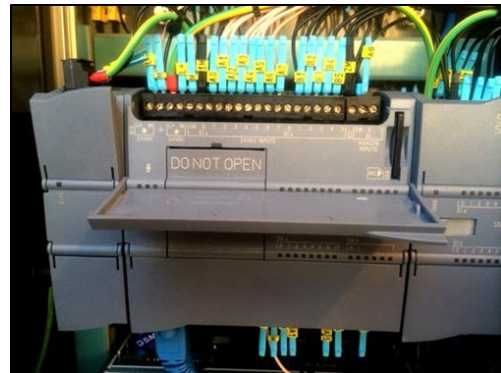

Figure 1 – Lower Enclosure
1.2 Open the SD Card Cover on PLC by pulling gently on the tab on the top right-hand corner of the cover (See Figure 1). This clicks as the cover releases.